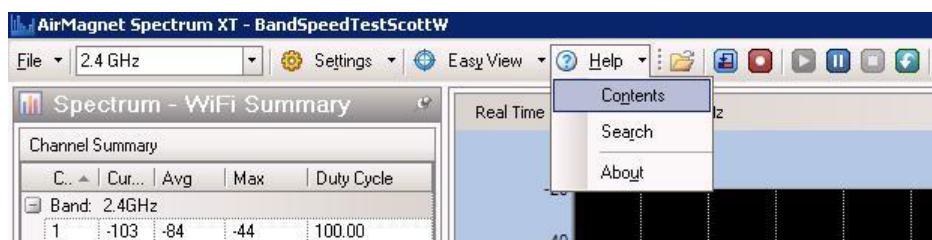

Figure 15-60: Accessing Remote Spectrum Analyzer online help
- 1) From the AirMagnet Remote Spectrum Analyzer screen, click Help and select Help Topics from the drop-down menu. See Figure 15-60.